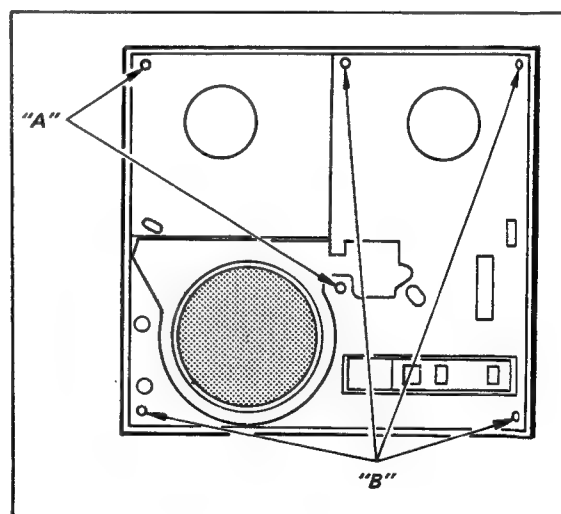

Fig. 3-2. Removal of Control and Reel Panel
5. Loosen the two screws "A"* and remove the four screws "B" as shown in Fig. 3-2.